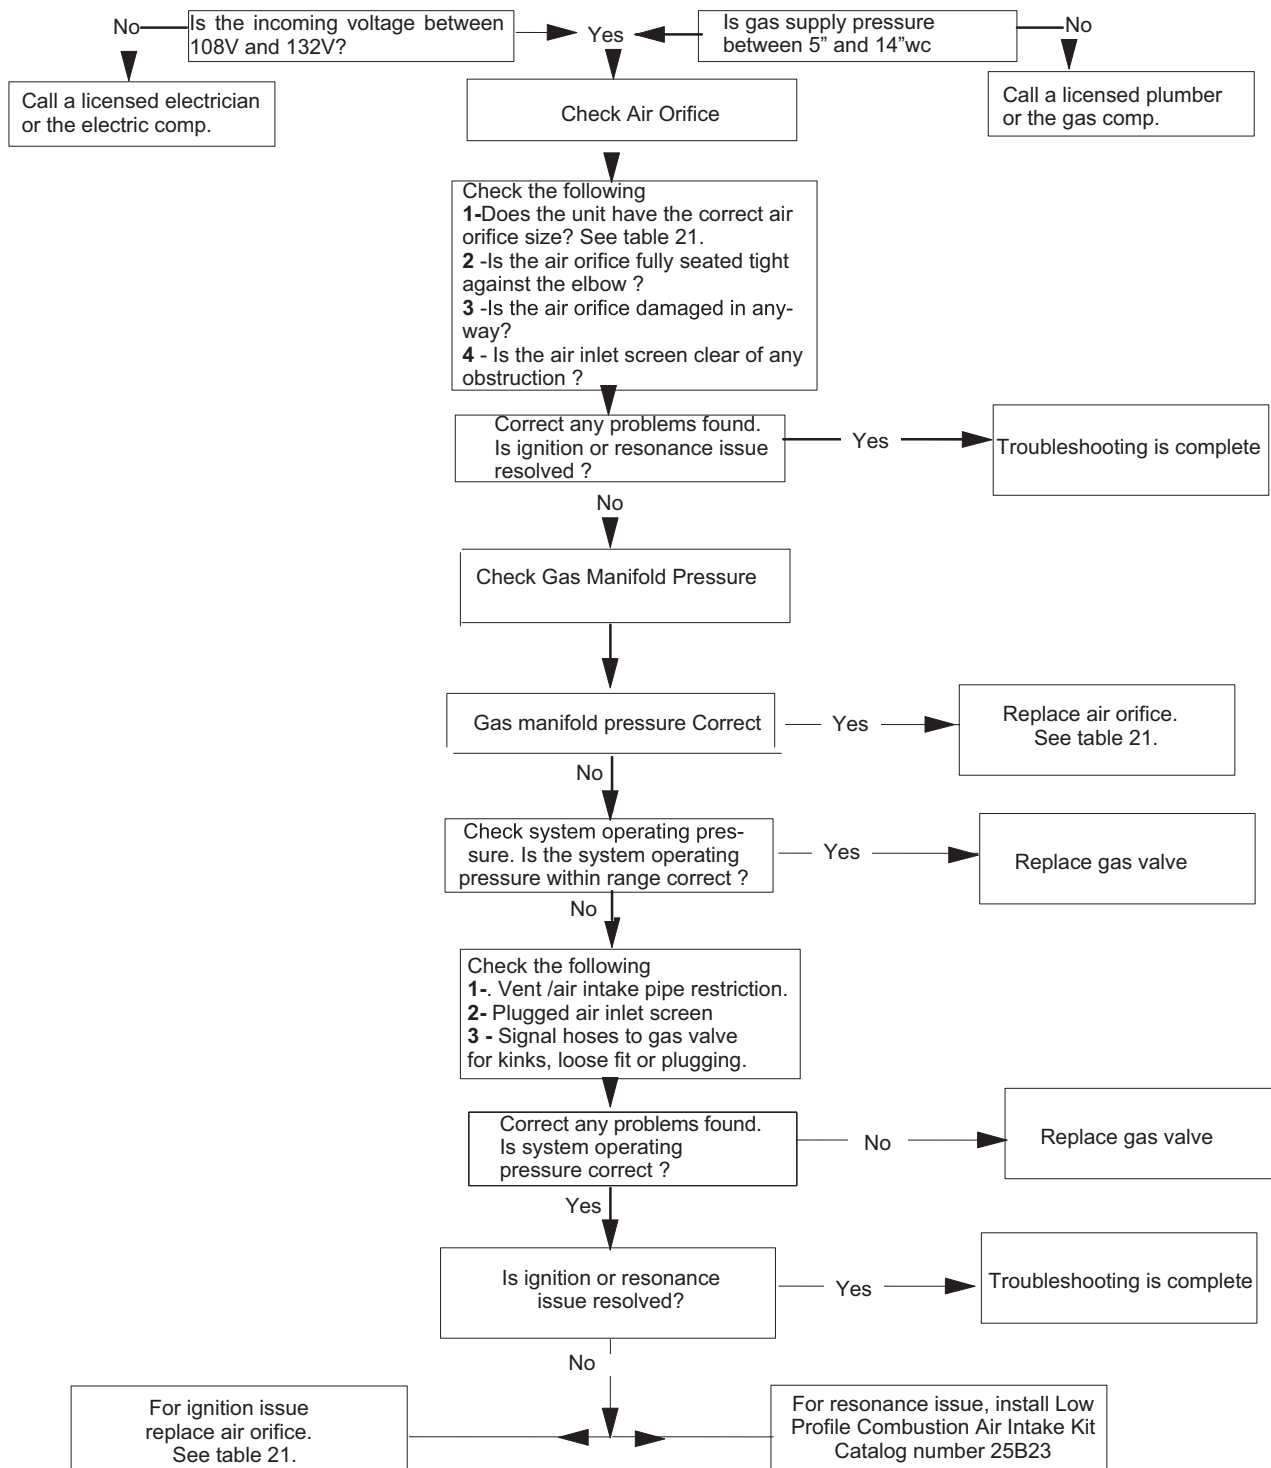

FIGURE 23
- 7 - Record system operating pressure and compare to value in TABLE 22. If system operating pressure is within range replace valve. If the system operating pressure is not within range go to "Troubleshooting" FIGURE 23.
If the unit has difficulty igniting or ignites with loud resonance see "Air Orifice Replacement" and "Troubleshooting" FIGURE 23.